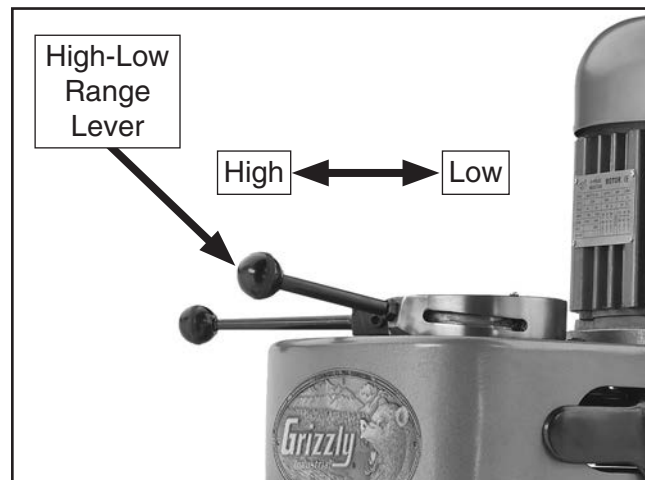

Figure 28. Model G0747 high-low range lever.
3. Move the high-low range lever shown in **Figure 28** to the high or low position.